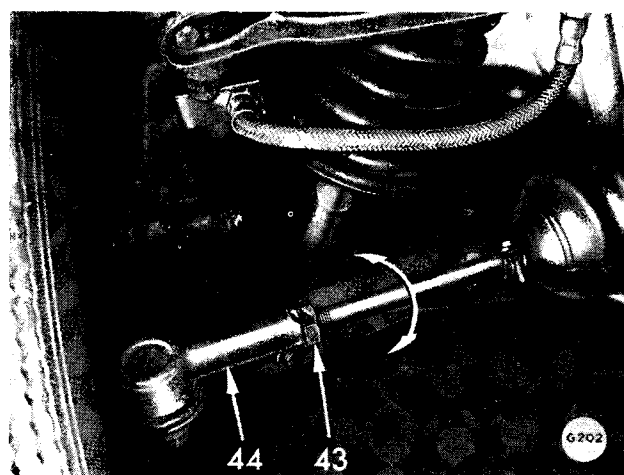

Fig. 10. Tie rod end
1. Remove item (9) from the coupling (7). Disconnect the earth strap, secured by item (28) at one end, from the bolt securing it to the front of the engine.
2. Referring to Fig. 10, extract the tie-rod ends (44) from the steering arms, after removing the securing nuts and washers.